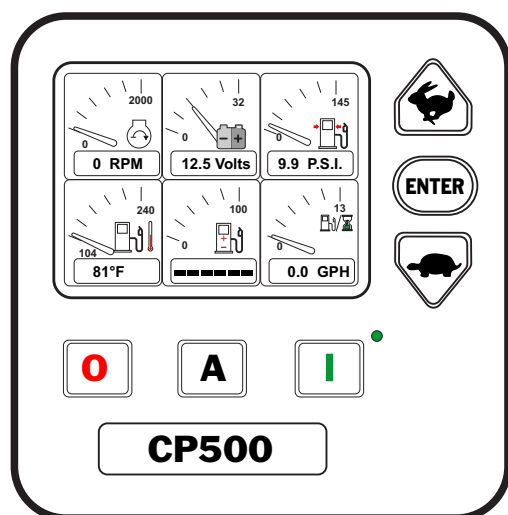

Figure 12. Engine Status (Engine OFF)
2. Verify that the engine status data is displayed as shown in Figure 12.